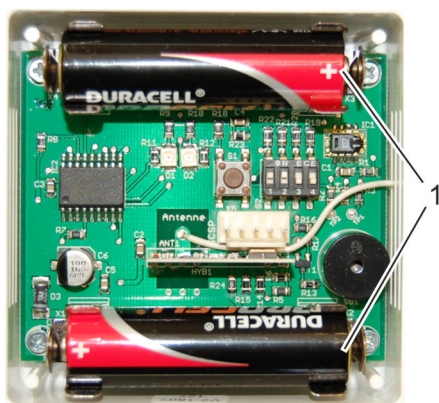

Fig. 12: Inserting batteries
2. ➤ Insert the enclosed AA batteries according to the illustration (Fig. 12/1). The plus and minus poles are marked on the board as well as on the battery. The batteries are correctly inserted if the markings match.